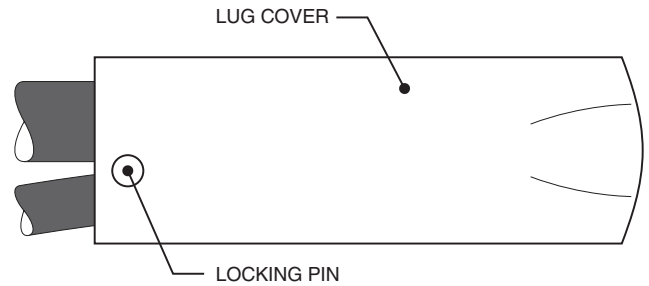

Figure 5
5. Be sure the locking pin (punched) holes are beyond the cable end of the mastic-vinyl wrap. Insert plastic locking pin through holes. *HINT: Inserting pin from the blind (back) side of lug cover will aid in visually seeing the pinpoint for proper alignment through the second hole (Figure 5).*